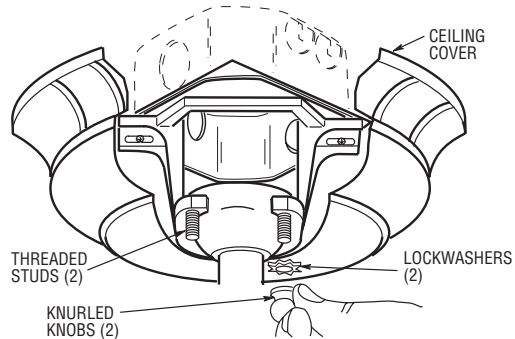

Figure 14
- 4. Lift the ceiling cover up to the threaded studs and turn until studs protrude through the holes in the ceiling cover (Figure 14).
- 5. Secure the ceiling cover in place by sliding lockwashers over the threaded studs and installing the two knurled knobs (supplied). (Figure 14). Tighten the knurled knobs securely until the ceiling cover fits snugly against the ceiling and the hole in the ceiling cover is clear of the downrod. Your fan is now wired to be turned on and off from the fan switch.